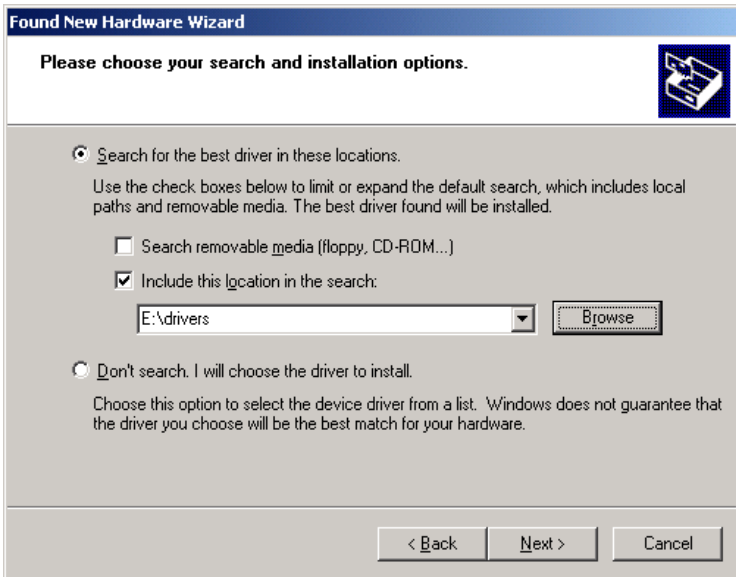

Figure 12. Specify location of driver.
2. Check "Include this location in the search." Enter the path or browse to the drivers folder on the CD. (Figure 12).